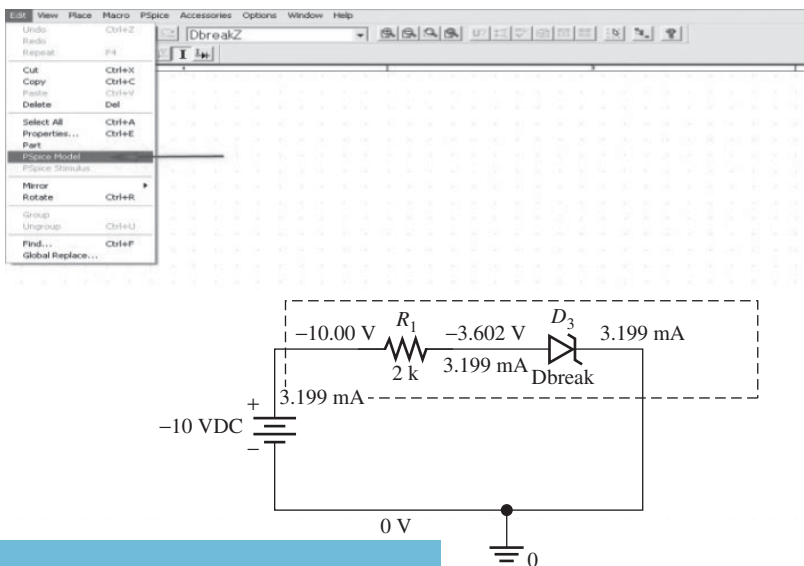

FIGURE 8.89 Enter the PSpice model editor for the Zener diode.
- Click on the Zener diode or Dbreakz, and go to the menu “Edit” → “PSpice Model” (see the arrow) as shown in Figure 8.89.